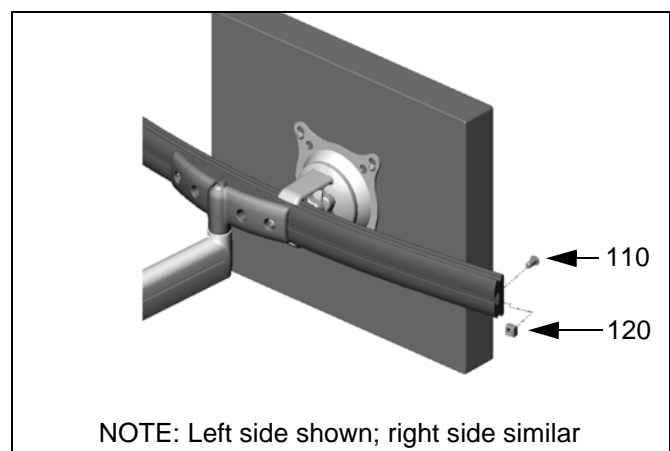

Figure 17: Install End Locks
7. Position the displays as desired and tighten the Centris head knob closest to the array (10). See "ADJUSTMENT" for additional information.
8. Using 5/32" hex key, install screw (110) and nut (120) on each end of the array (10) to prevent displays from accidentally sliding off (See Figure 17).